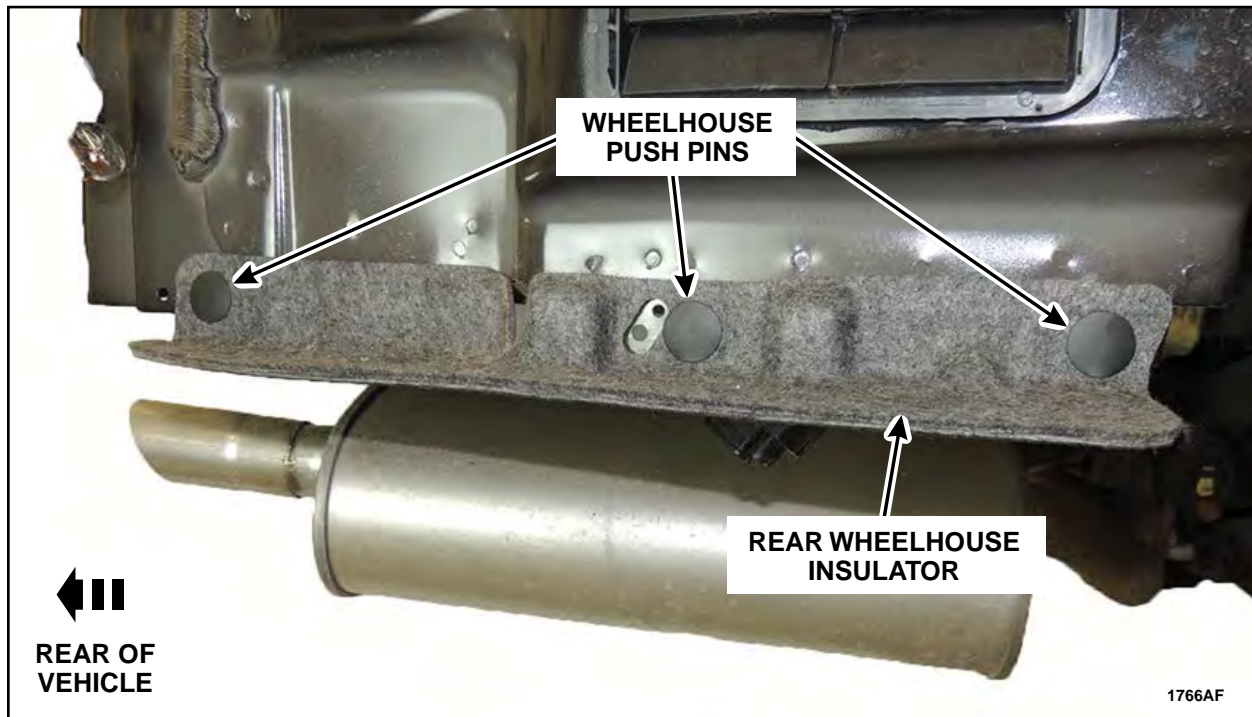

FIGURE 5
5. Reinstall the wheelhouse insulators. The wheelhouse push pins can be reinstalled by removing the lower inner fender well fasteners to gain access to the fasteners. See Figure 5.